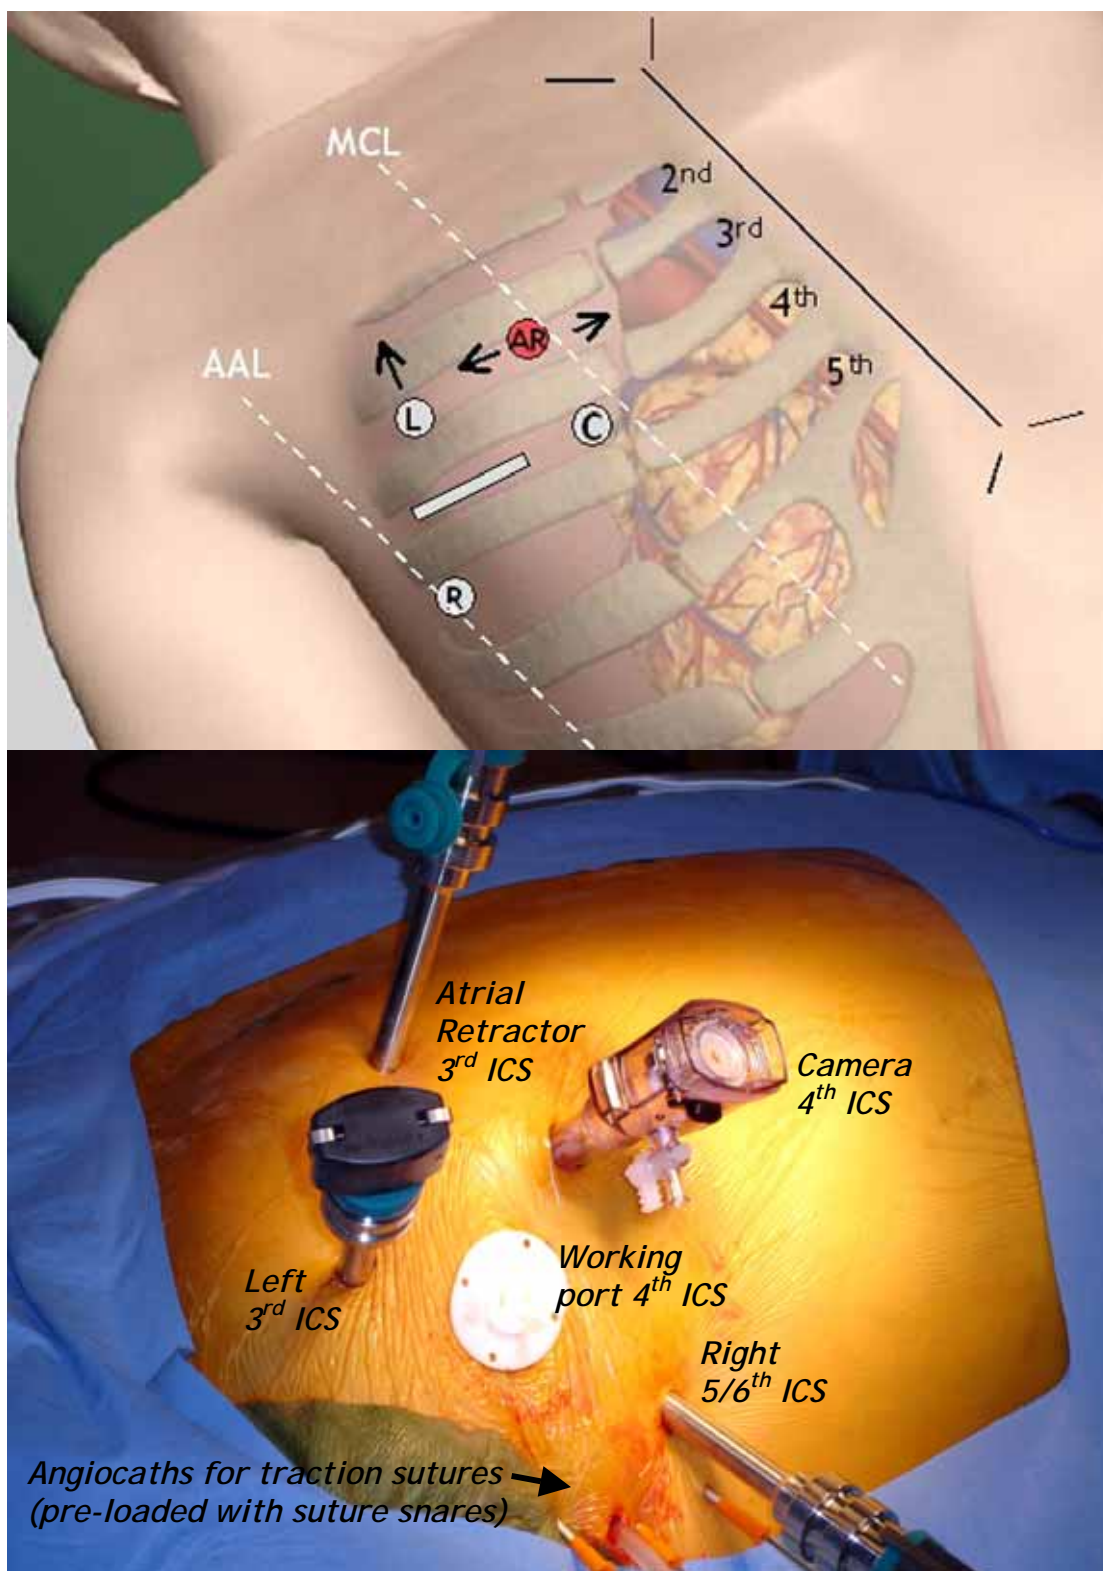

Figure 12: Port set up for Atrial Retractor as a second left-hand instrument
- Atrial Retractor as second left-hand instrument (standard *da Vinci* and *da Vinci S*) [Figure 12]: